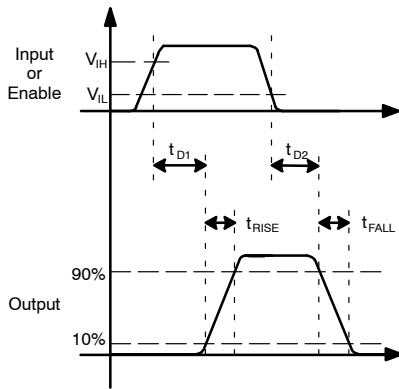
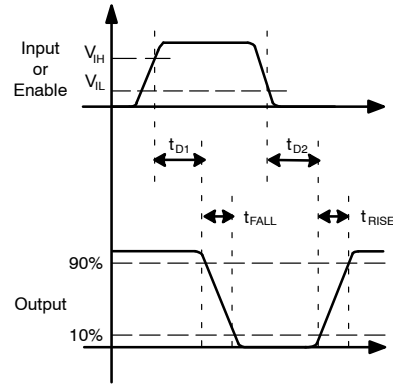

Figure 8. Non-Inverting
Figure 9. Inverting
- 10. See *Timing Diagrams of Figure 8 and Figure 9.*